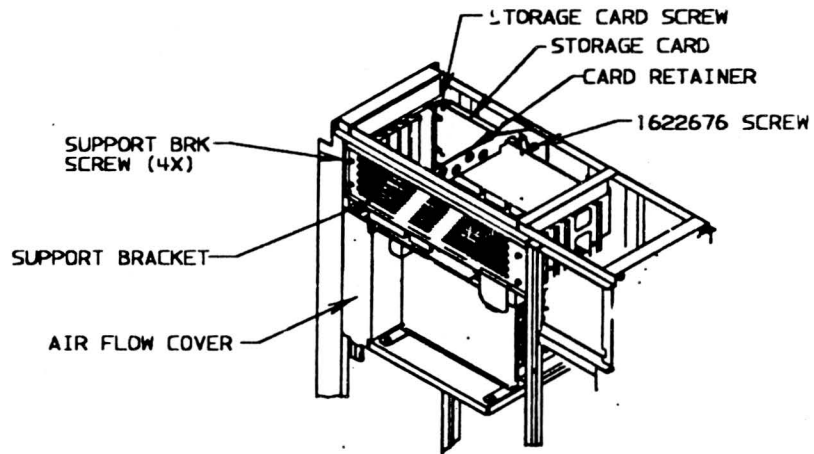

Figure 2
- 10.1.8 Remove the four screws holding the logic frame support bracket. Remove the bracket and set aside (reference Figure 2).
- 10.1.9 Remove the storage card retainer screw, then remove the B1 board card retainer (see Figure 2).